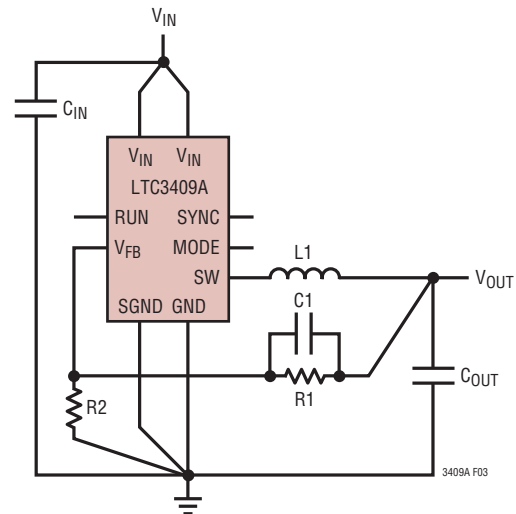

Figure 3
When laying out the printed circuit board, the following checklist should be used to ensure proper operation of the LTC3409A. These items are also illustrated graphically in the layout diagram of Figure 3. Check the following in your layout.
- When laying out the printed circuit board, the following checklist should be used to ensure proper operation of the LTC3409A. These items are also illustrated graphically in the layout diagram of Figure 3. Check the following in your layout.
- Figure 3**